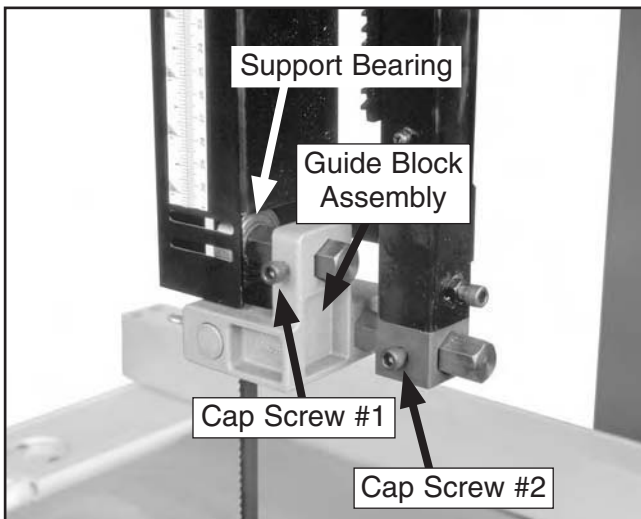
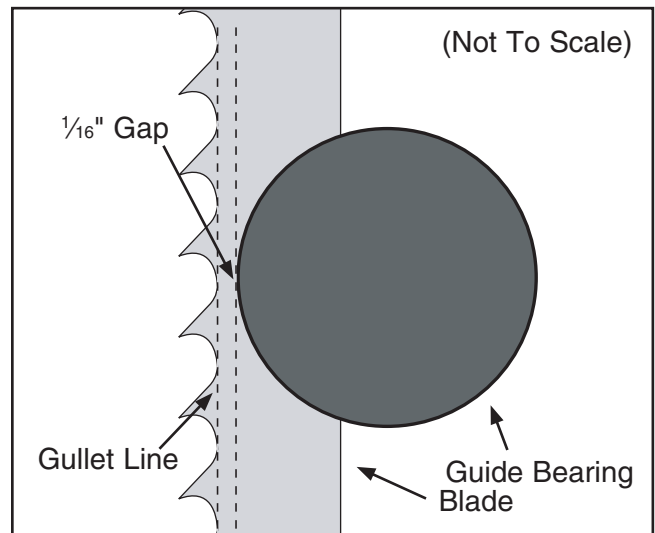

Figure 25. Back of upper blade guide.
Figure 27. Correct guide bearing alignment against the blade.
2. Loosen cap screw #1 shown in **Figure 25** and slide the support bearing away from the blade.
4. Loosen cap screw #2 shown in **Figure 25** and adjust the guide block assembly until the front edge of the guide bearings are aligned $\frac{1}{16}$ " behind the gullet line as shown in **Figure 27**. Retighten cap screw #2.